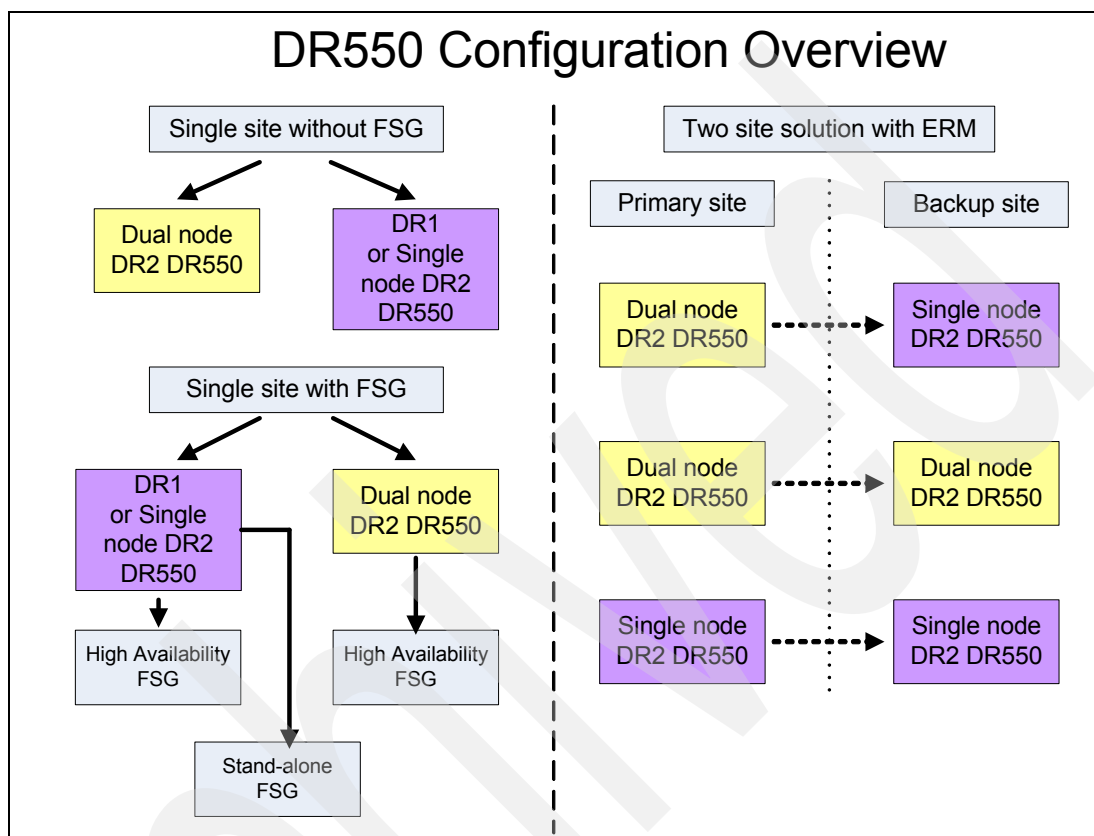

Figure 3-1 DR550 configuration overview
- If you have special requirements for availability and disaster recovery or if you need remote mirroring, you can use the diagram in Figure 3-1 to discover the possible configurations and options of the various DR550 models.